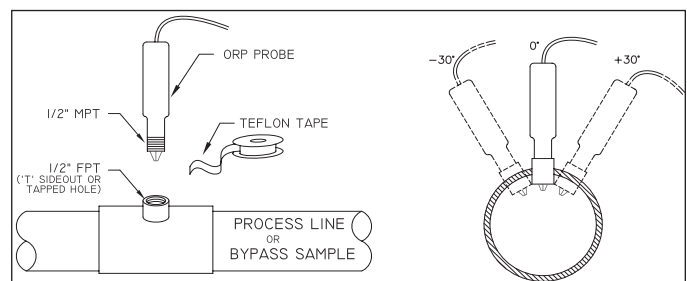

Figure 3: ORP Probe
1. Locate the point of insertion in the process pipe. Avoid elbows, tees or other fittings that may contribute turbulence to the treatment flow. See figure 3.